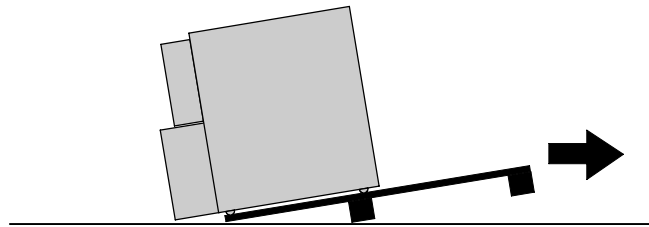

Figure 10. Removing the Pallet
8. With the UPS supported, slowly pull the pallet away from the UPS (see Figure 10).